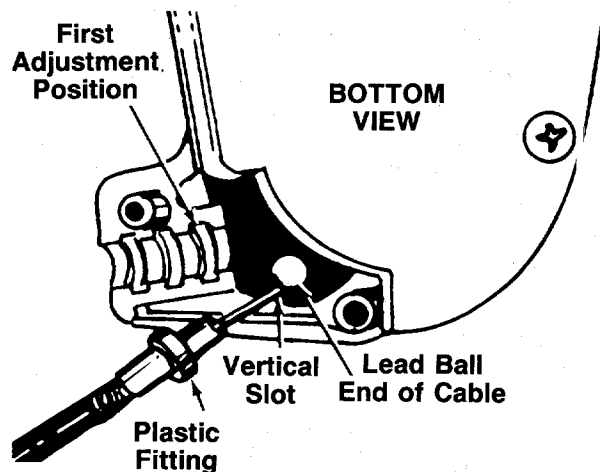

FIGURE 6.
1. Place the lead ball end of the cable into the fitting provided in the end of the clutch control lever. Slip the braided wire into the vertical slot as shown in figure 6.
3. Place the plastic fitting on the control cable into the first adjustment position in the clutch control housing. See figure 6.